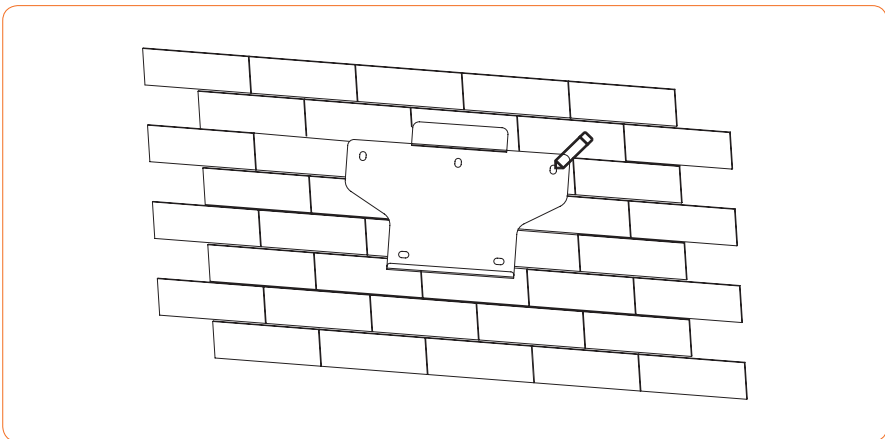

Figure 4-5 Mark the hole position
① Use the wall bracket as the template to mark the position of 5 holes on the wall. See Figure 4-5 for details: